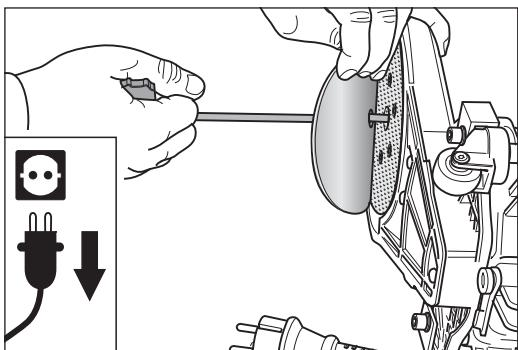

Fig. 15 Mount the new Velcro sanding disc in a centred position and press down.
- 4 Place a new Velcro sanding disc on the sanding plate. The Velcro sanding disc must be positioned in the centre of the sanding plate. The hole in the centre of the sanding disc and the universal spanner make this step easier (fig. 15).